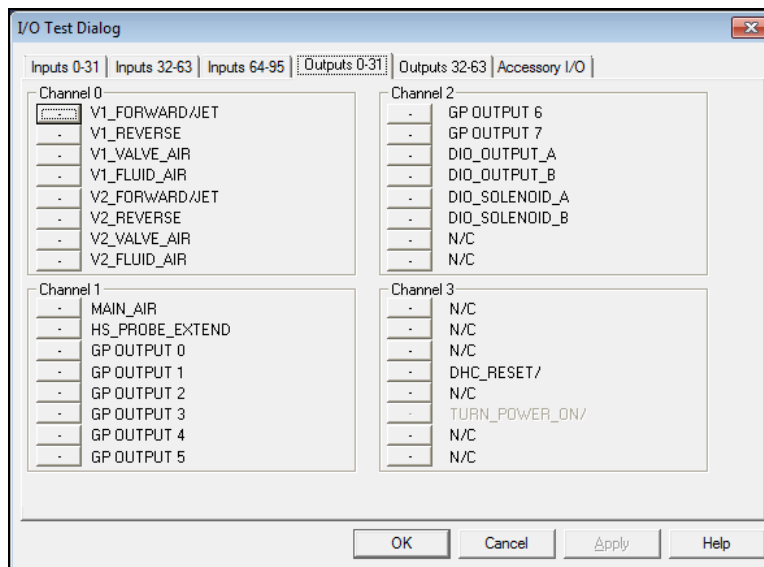

Figure 3-1 Dispenser I/O Test Dialog Box (typical)
6. Locate the valve forward output (V1\_FORWARD/JET) (Figure 3-1).
9. In the Dispenser I/O Test dialog box, locate the **Valve Reverse** output (V1\_REVERSE) (Figure 3-1).